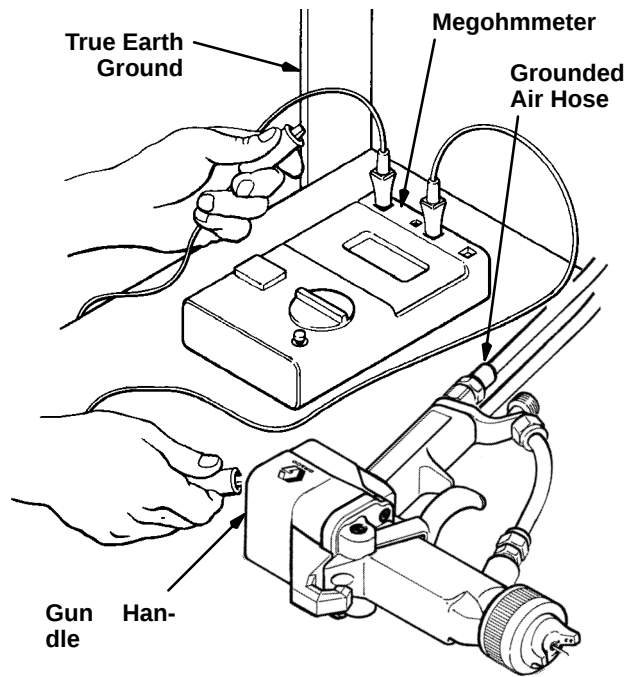

Fig 2
- With the electrically conductive air hose connected and properly grounded, use a megohmmeter to measure the resistance between the gun handle and a true earth ground. Use an applied voltage of 500 minimum to 1000 volts maximum. See Fig 2.